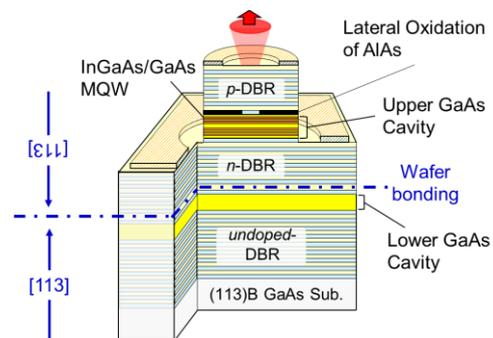
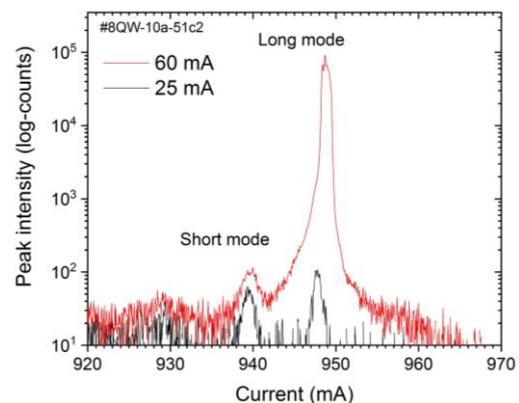

Fig. 1. Schematic of device
Fig. 2 Emission spectra of device
In this study, a coupled cavity structure was fabricated by the face-to-face bonding of two (113)B epitaxial wafers. The schematic of the current-injection device based on the coupled cavity structure was shown in Fig. 1. InGaAs multilayer quantum well were embedded in the upper cavity as gain materials. Optical emission properties of the devices were studied using a pulsed-current source with a repetition rate of 1 kHz and a pulse duration of 0.5 μs. Figure 2 shows the spectra measure at room temperature. Two emission peaks due to the cavity modes were observed at a current of 25 mA. Oscillation of long-wavelength mode was observed at a current of 60 mA. Long-wavelength mode shows a threshold at approximately 40 mA.